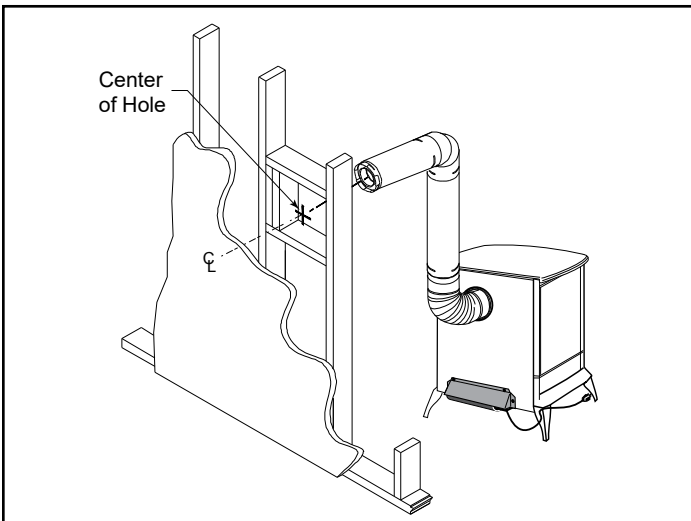

**Figure 3.24**
- Twist-lock procedure: Line up locking lugs on male and female ends of pipe sections. Insert the male end of pipe into the female end until the locking lugs are covered. Twist the female end clockwise an eighth of a turn to lock sections together, Figure 3.24. Screws are not required to secure the joint, but are acceptable provided they do not penetrate the inner wall of the vent pipe.